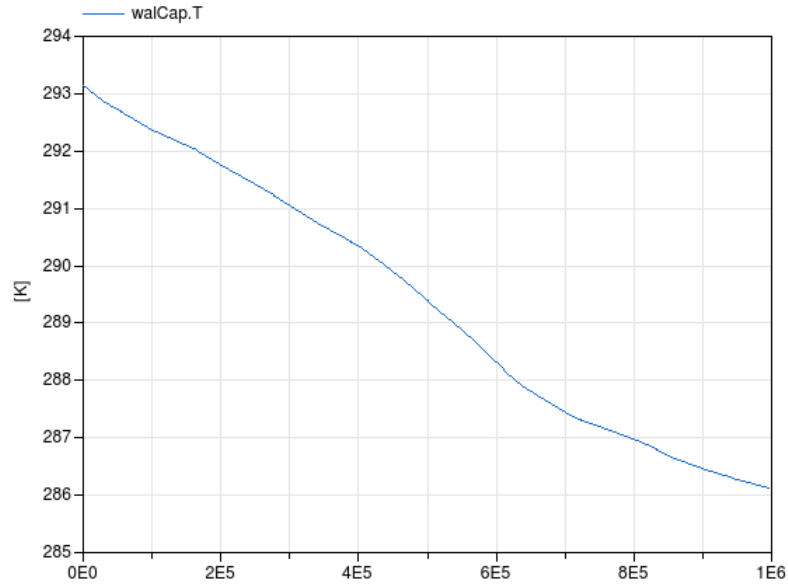

Figure 1: Wall temperature in K as function of time in seconds
**Reference result** If you correctly added the model, connected it to the resistor and added the parameter values for  $C$ 2 then you should be able to simulate the model. To do this, go to the simulation tab (see bottom right), open the simulation options ('setup') and set the model 'stop time' to 1e6 seconds. You can now simulate the model. You can plot individual variables values by clicking on their name in the variable browser on the left. Now plot the wall capacitor temperature value 'T'. It should look like Figure 1.